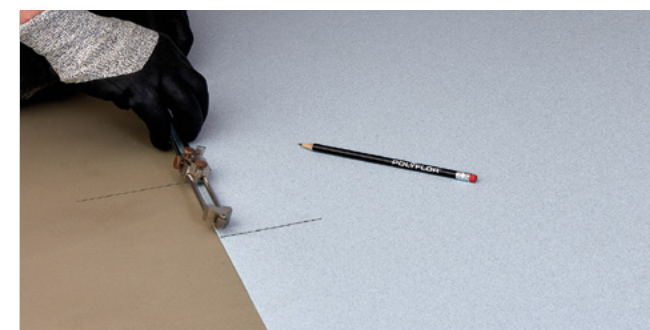

Figure 38 Scribing the wall profile
- > Set the scribes to the distance now between lines C and D (fig. 38)